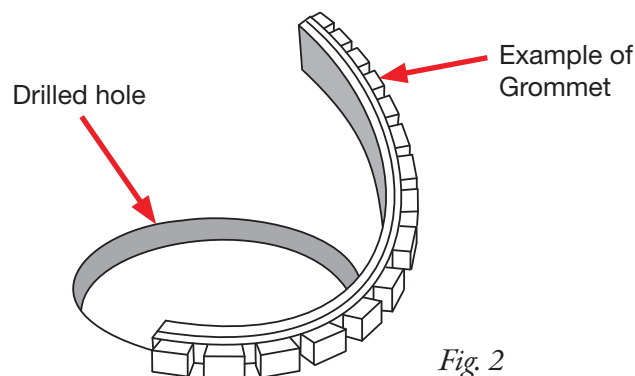

Fig. 2
- Avoid routing air lines and wiring near sharp edges. If passing air lines or wiring through holes in the frame, use rubber grommets (not supplied) (Fig. 2). Support wiring and air lines every 8-12" (200-300mm) with zip ties (F) or other means.